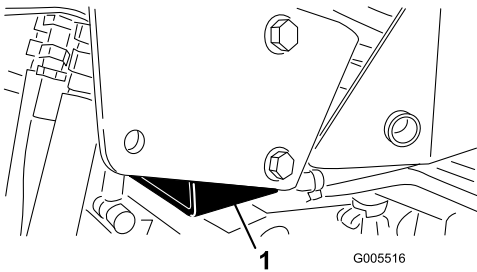

Figure 27
- Right side—under the jack pad and adjacent to the ROPS-support bracket (Figure 27)